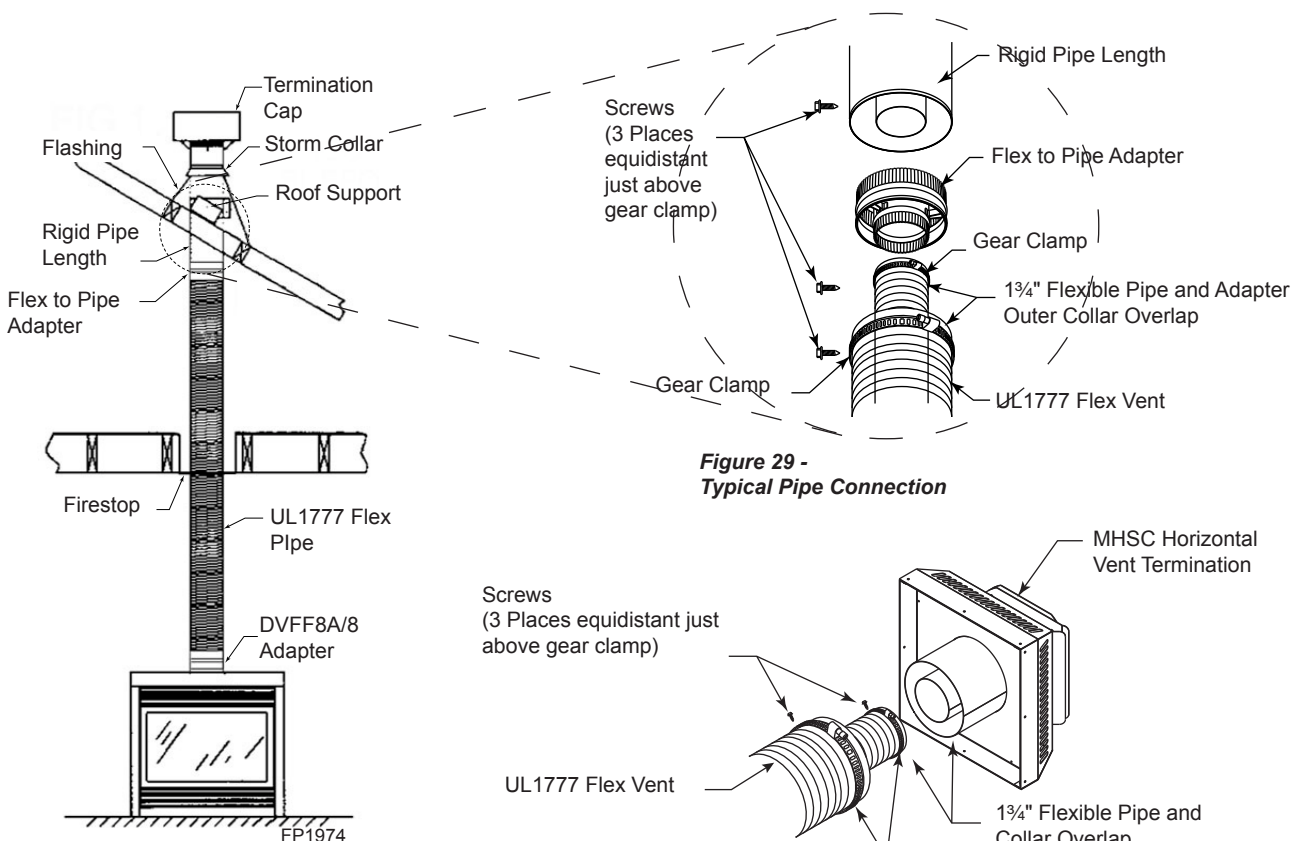

**Figure 28 -
2. Install firestop spacers, *Figure 28*, when penetrating ceiling, attic spaces, or walls.
4. Use only listed and approved terminations and accessories, installed per the installation instructions and *Figure 28*.